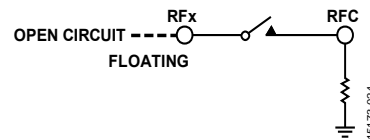
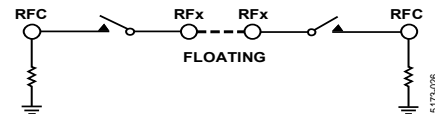
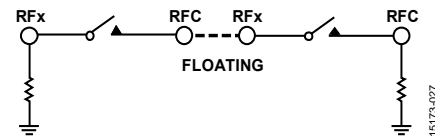

Figure 53. RFX Pins Left Open Circuit
Figure 55. RFX Pins of Two MEMS Switches Directly Connected
Figure 56. RFC Connected to RFX
The ADGM1004 has no internal impedance to ground, and charges can develop on the switch terminals leading to unreliable switch behavior. To mitigate this behavior, provide a discharge path to all switch nodes. Figure 53 to Figure 56 show examples of cases to avoid where floating nodes can occur when using the switch. Conditions to avoid include the following:
- Leaving the RFX pins open circuit (see Figure 53).
- Connecting the RFX pin of two switches together directly or connecting the RFC pin to the RFX pin (see Figure 55 and Figure 56).